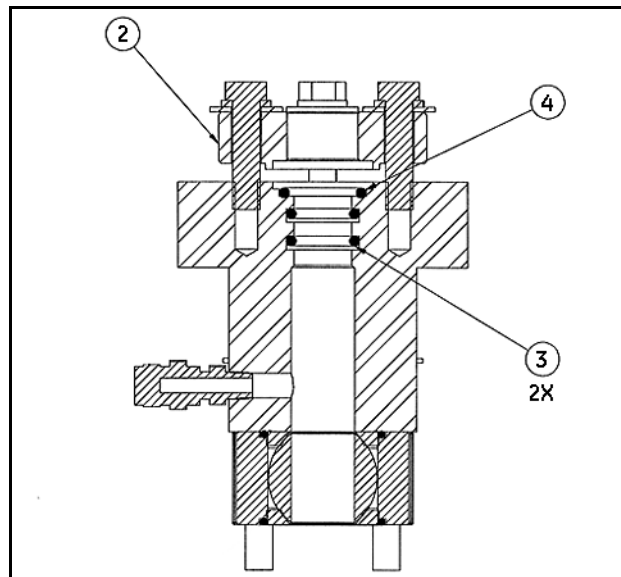
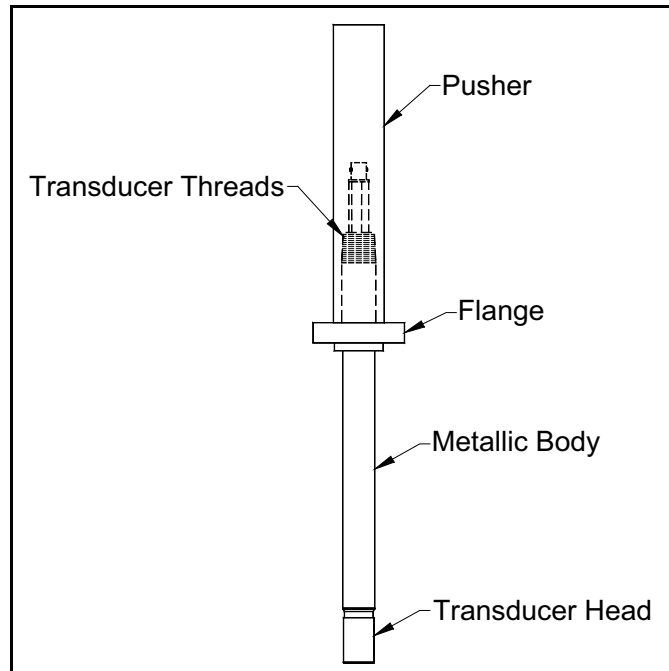

Figure 86: Holder Cross-Section - O-Ring Placement
Figure 87: T11 Transducer and Pusher
1. Lubricate and install three new o-rings in the T11 holder (see *Figure 86* below and *Table 11* on page 101).
3. Apply anti-seize lubricant to the new T11 transducer NPT threads, then assemble a T11 pusher onto the new transducer (see *Figure 87* on page 103).
4. Lubricate the shaft of the transducer with spray lubricant that is safe for the o-rings. Then, insert the transducer into the meter body holder, while carefully pressing the transducer head past the radial o-rings (see *Figure 86* above and *Figure 87* on page 103).